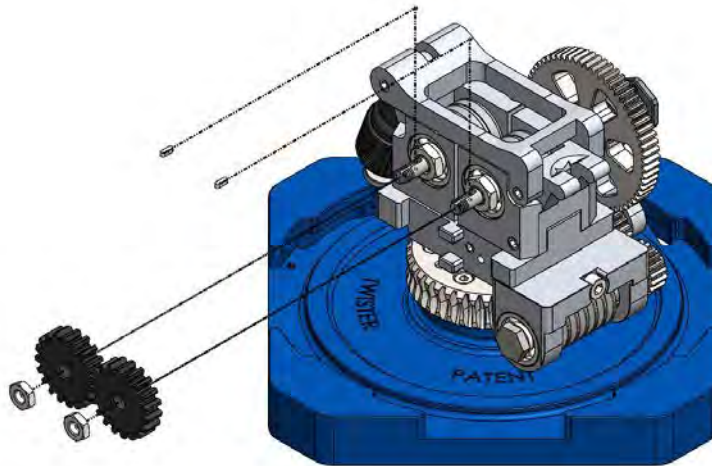

Figure 60
10. The last operation consists in assembling the synchronization wheels by using open end wrenches with a 10[mm] and 13[mm] hexagonal mouth. Figure 60.